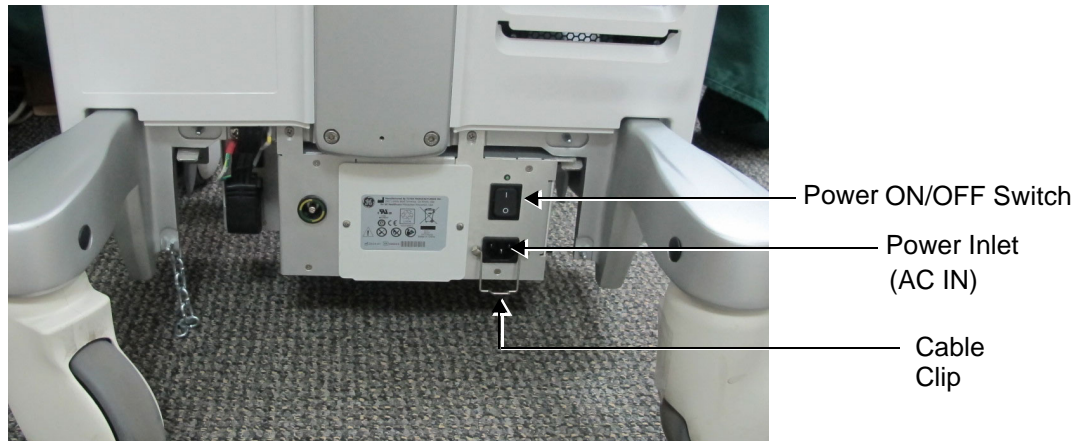

Figure 4-1 Power ON/OFF Switch and Power (AC IN) Socket - Rear Panel
- 6.) Connect the AC Power Cable female plug to the Power Inlet (AC IN) at the rear of the unit - see Figure 4-1. Use the cable clip to secure the cable firmly in the socket (Figure 4-2).